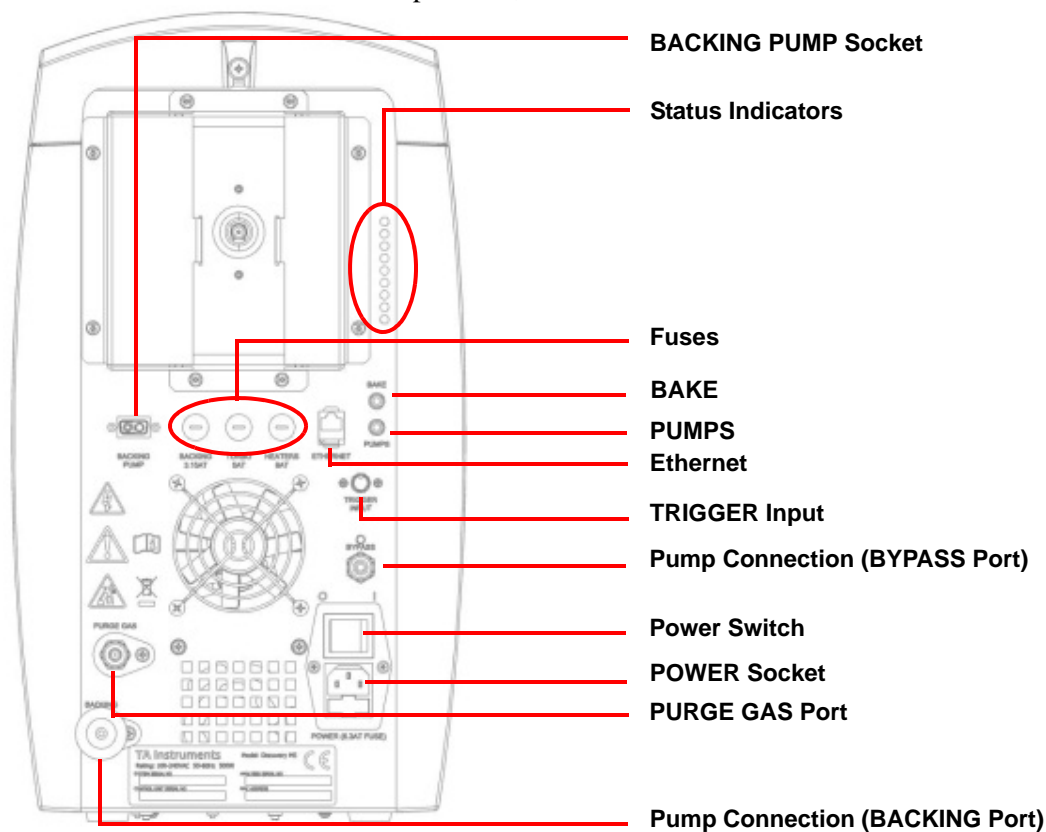
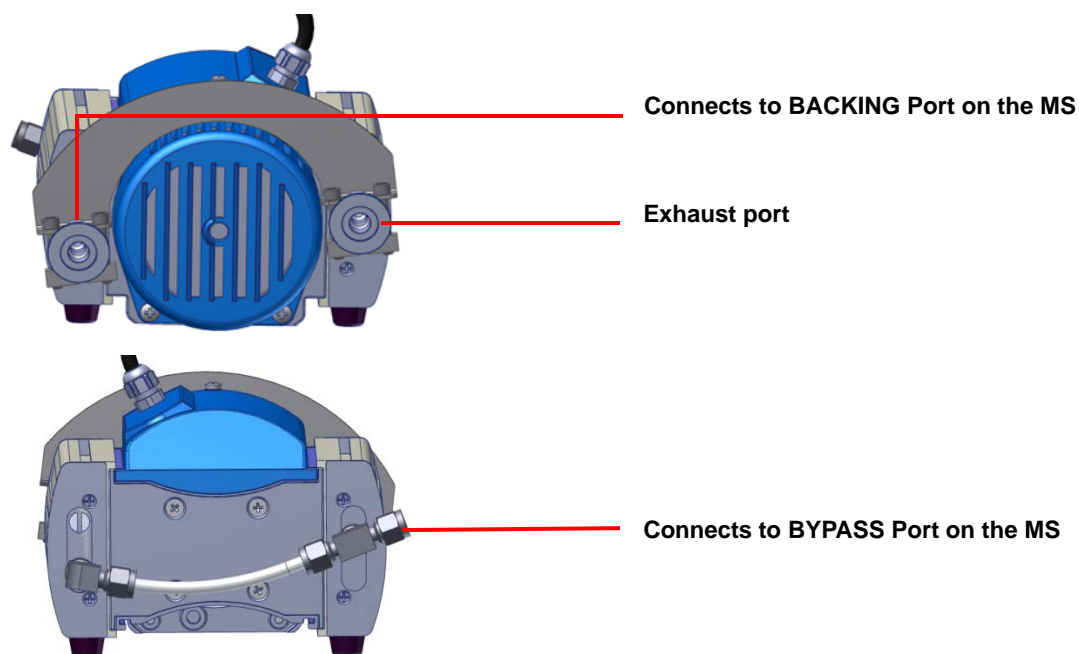

Figure 2 Discovery Mass Spectrometer rear panel connections.
Figure 3 External Backing Pump.
Refer to Figure 2 for an illustration of rear connections.
- 1 Connect the Backing Pump cable to the top of the backing pump and plug the other end into the “BACKING PUMP” socket on the rear of the MS. Refer to Figure 3 for an illustration.
- 2 Connect one end of the bellows to the KF16 fitting on the rear of the MS marked “BACKING” and the other end to the KF16 fitting on the front right of the backing pump. Ensure the O-rings are used and the fittings are tightened securely. Refer to Figure 2 and Figure 3 for an illustration of connections.
- 3 Connect one end of the flexible tubing to the Swagelok fitting on the rear of the MS marked “BYPASS” and the other end of the tubing to the Swagelok fitting on the back of the backing pump. Refer to Figure 2 and Figure 3 for an illustration of connections.